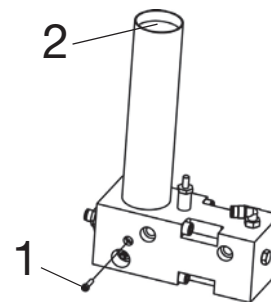

Fig. 7-40 1 Bleed screw
- Remove the bleed screw (1, Fig. 7-40).
- Push the plunger (2, Fig. 7-40) into the lubricant cartridge until grease seeps from the open hole for the bleed screw.